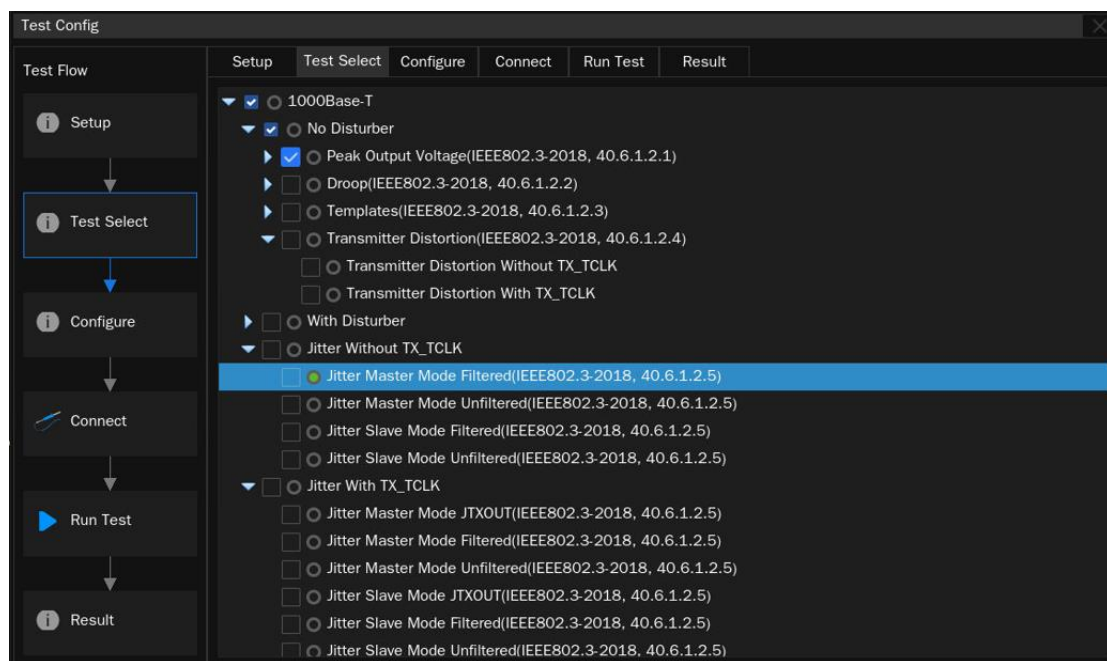

Figure 4-3 Test Items selection window
- **Test Select:** Select the items to be tested in this column, as shown in Figure 4-3.